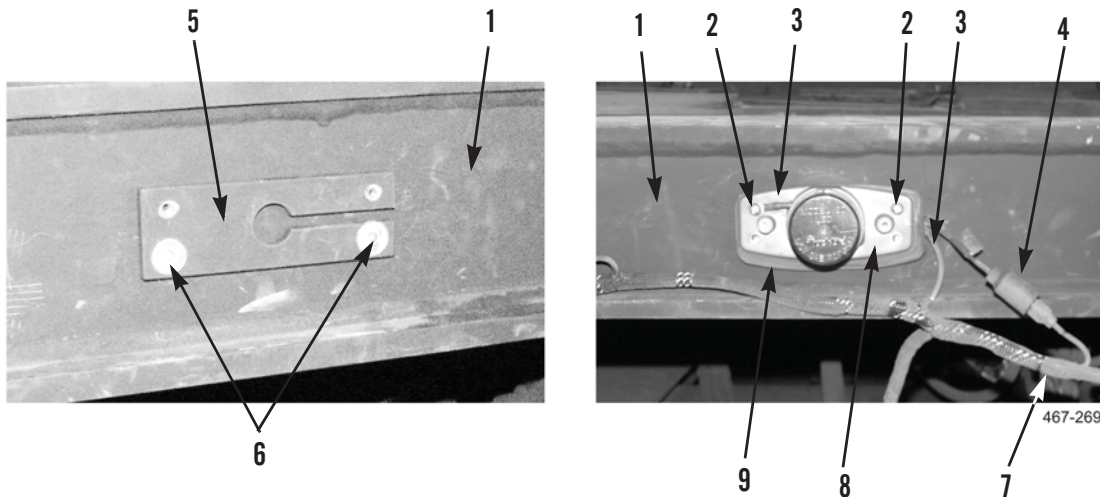

Figure 19. Slider Beam Light and Mounting Plate Installation.
9. Install mounting plate (Figure 19, Item 5), and two screws (Figure 19, Item 6) on slider beam (Figure 19, Item 1).
10. Install gasket (Figure 19, Item 9), light (Figure 19, Item 8), two ground wires (Figure 19, Item 3), and screws (Figure 19, Item 2) on slider beam (Figure 19, Item 1).
11. Connect light connector (Figure 19, Item 4) to vehicle wiring harness (Figure 19, Item 7).